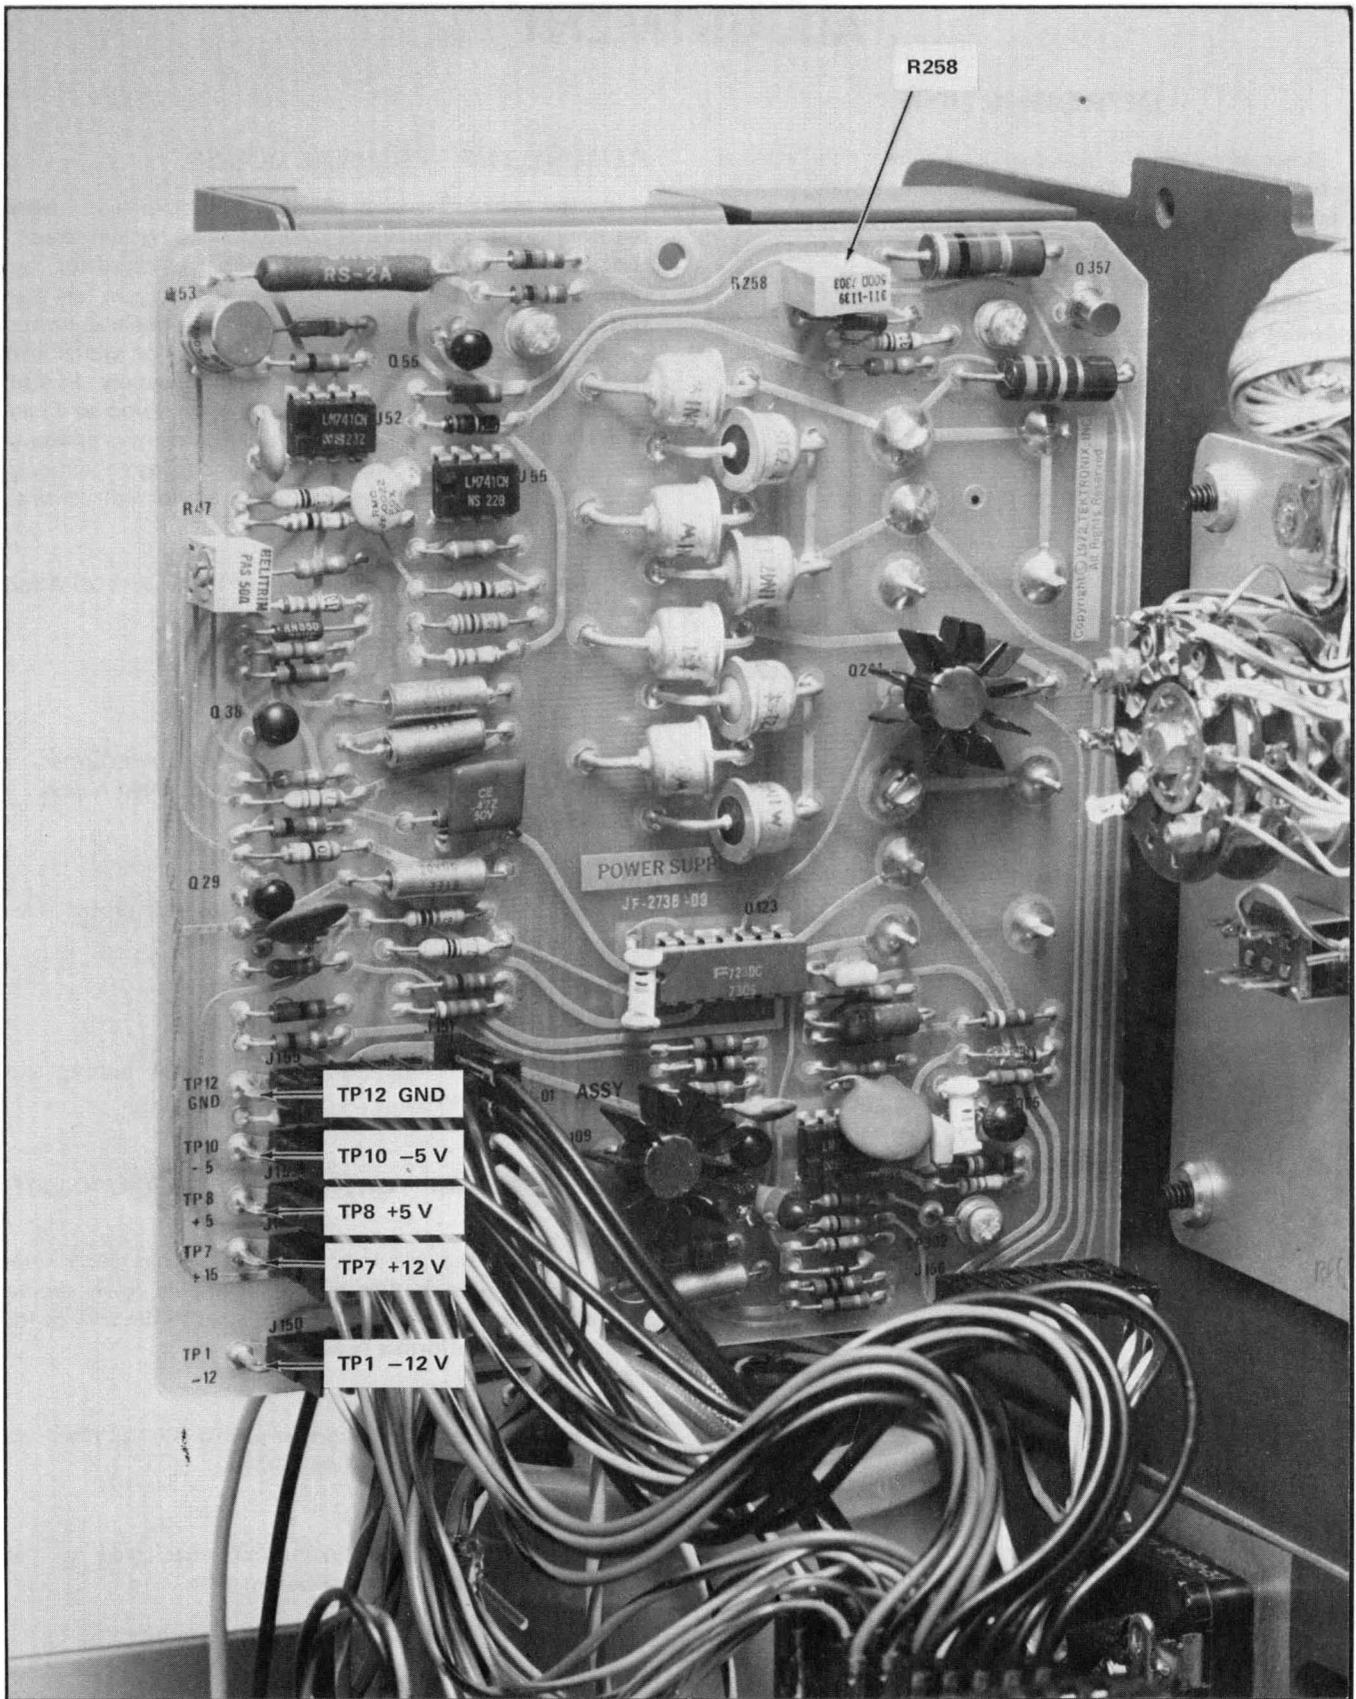

Fig. 4-1. Power Supply Adjustment and Test Point locations.
- c. Connect the voltmeter reference lead to the ground Test point, TP 12. See Fig. 4-1.
- d. Using a voltmeter that has 1.0% or better accuracy, adjust R258 to obtain +5.00 V at the +5 V test point. Adjustment and test point locations are shown in Fig. 4-1.
e. Measure the other power supply voltages as listed in Table 4-2. Test points are shown in Fig. 4-1. Record all voltages in Table 4-3. (Make duplicate copies of Table 4-3 for future use.)